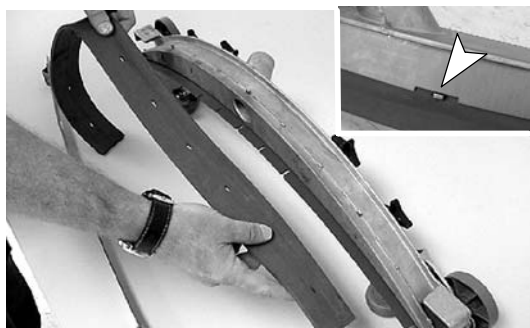

FIG. 51
- Rotate the rear blade to a new wiping edge and reinstall the band. Make sure the notched edge of the band is facing downward (Figure 51).